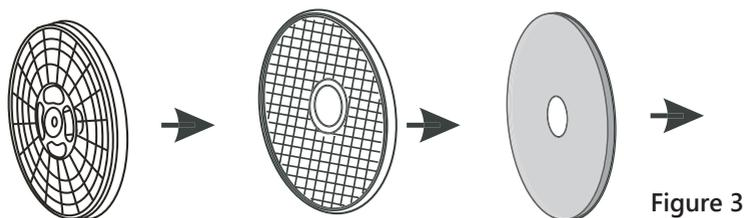

Figure 3
- e. Please adjust the direction of the exhaust connector, then match the exhaust connector to the connector. Please refer to Fig 3.
After cleaning, reinstall in the following order: 'Exhaust Filter → Lint Filter → Exhaust Vent.' Align the center groove in the filter with the icon on the drum can and ensure it is inserted correctly at the front. (Shown in Fig 3)